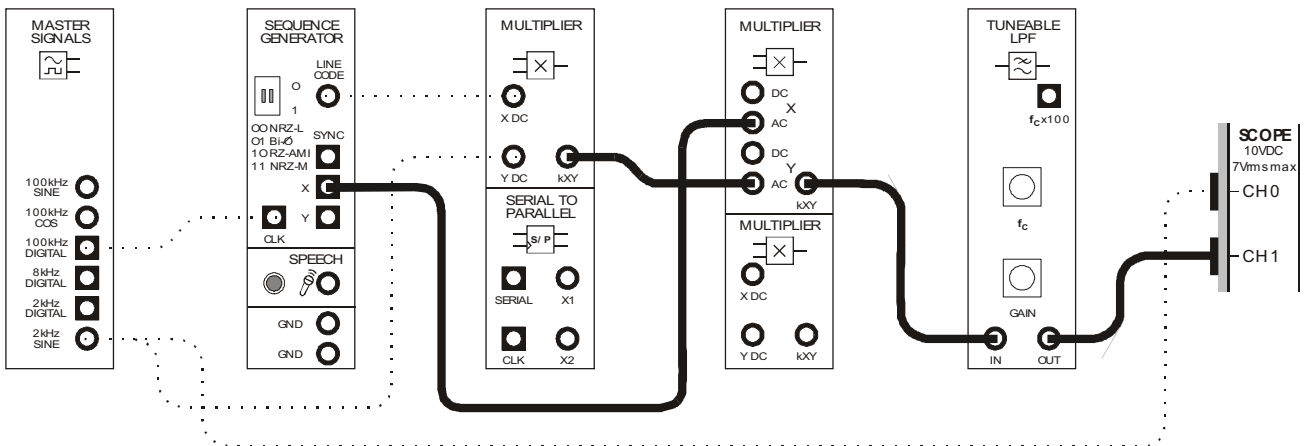
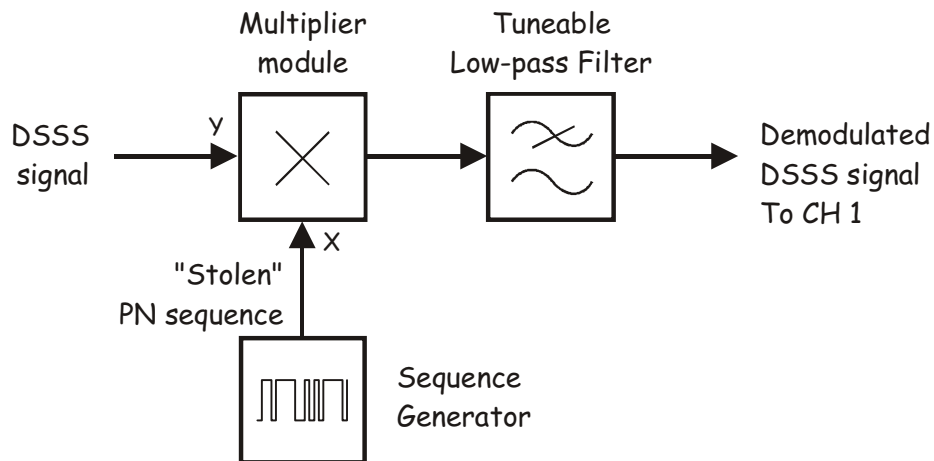

Figure 5
Figure 6
33. Modify the set-up as shown in Figure 5 below.
The additions to the set-up in Figure 5 can be represented by the block diagram in Figure 6 below. The Multiplier module and the Tuneable Low-pass Filter module implement a product detector which recovers the original message from the DSSS signal. To facilitate this, the PN sequence used for the modulator's carrier is "stolen" for the product detector's local carrier (though it's stolen from the module's X output but the bit pattern is the same).